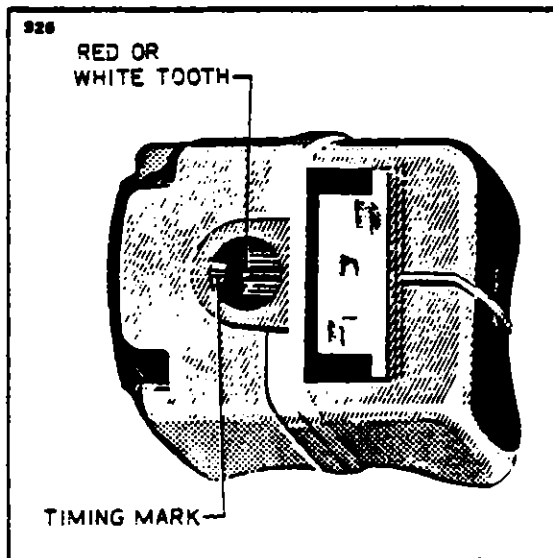

FIGURE 7-11. MAGNETO TIMING MARKS
- c. Rotate coupling from neutral, in a left hand direction 10° , appearing through timing hole, when the white or red tooth aligns with the white line of the distributor block, the magneto is set at "E" gap. (Refer to Figure 7-11.) Alignment may not vary over $+4^\circ$.